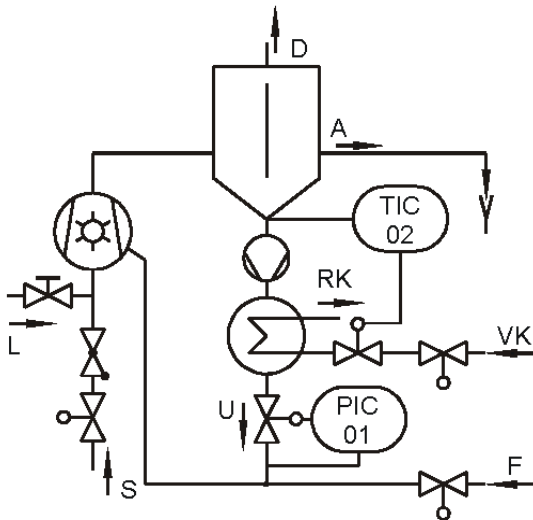

Fig. 16 Closed circulation cooling
- ▶ Set the pressure in the operating liquid pipe to a value which is 1.5 PSI smaller than the compression pressure (→ Diagram Fig. 16).